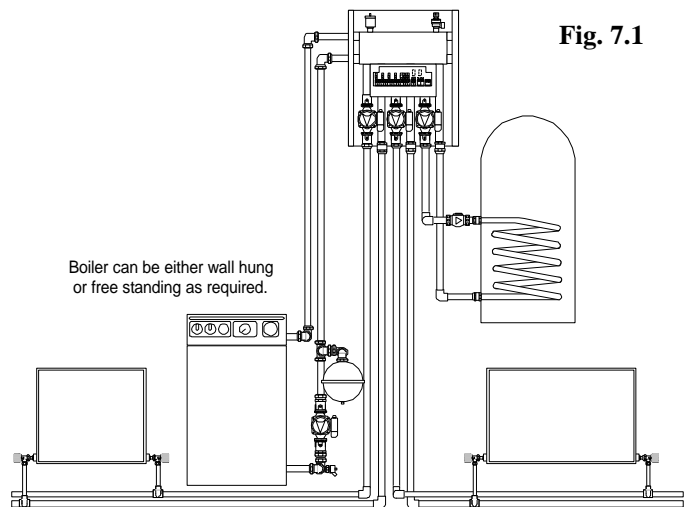

Fig. 7.1
- If the DHW Cylinder is to be located below the SystemLink it would be advisable to fit a non-return valve on the flow connection to the cylinder (Fig. 7.1) to prevent the heated water rising towards the SystemLink, causing the cylinder to lose heat.
Installation is as per Fig. 7.1. Motorised valves are not required. Non-return valves may be required in certain circumstances. See Section 5, Ancillary Heating Equipment for details.
The installation is as Fig. 7.1, except that a 'Towel Rail Zone' has replaced the domestic hot water cylinder, in this illustration. Non-Return valves may be required. See Section 5: Ancillary Equipment.
Pipe-work arrangement for each boiler is as Fig. 7.1, with a requirement for just one set of cold feed and expansion pipes.
Connect the Cooker to the SystemLink using a pipe-work arrangement as per Fig. 7.1.
The boiler should be connected in accordance with Fig 7.1
The boiler should be connected in accordance with Fig. 7.1
The boiler should be connected as depicted and in accordance with Fig..7.1